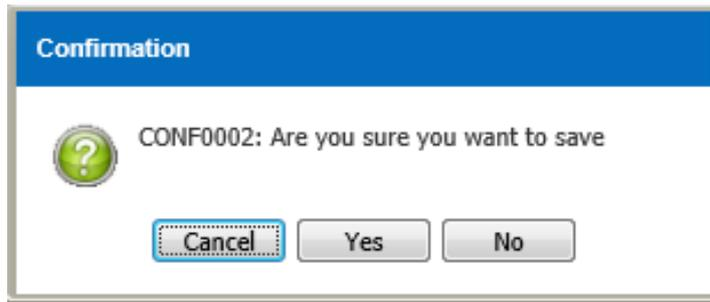

Figure 3.14.1-3 Confirmation Message
- Confirmation message as shown in Figure 3.14.1-3 will be displayed after user save the record
- Record will save when user click on the  button as shown in Figure 3.14.1-4